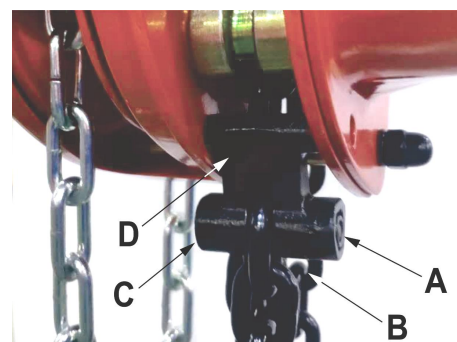

Figure 11
8. If installing entire new chain, insert the end of the hand chain into the groove at the top of the hand chain wheel (see Figure 11). Rotate the hand chain wheel and pull the chain through.
Referring to Figure 11: